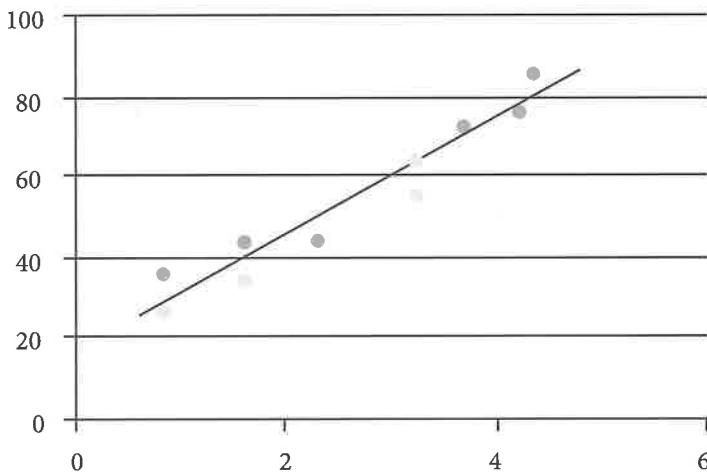

FIGURE 6.4 Regression analysis (scatter diagram)
- **Regression analysis⁹ (scatter diagram)** This diagram tracks two variables to see if they are related; the diagram is then used to create a mathematical formula to use in future parametric estimating. Figure 6.4 shows an example of a scatter diagram.